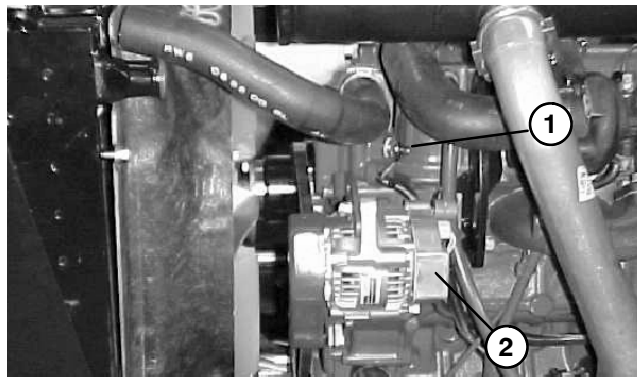

Figure 35
1. Disconnect wire from temperature sender on engine (Fig. 35) Turn ignition key to ON (do not start engine).